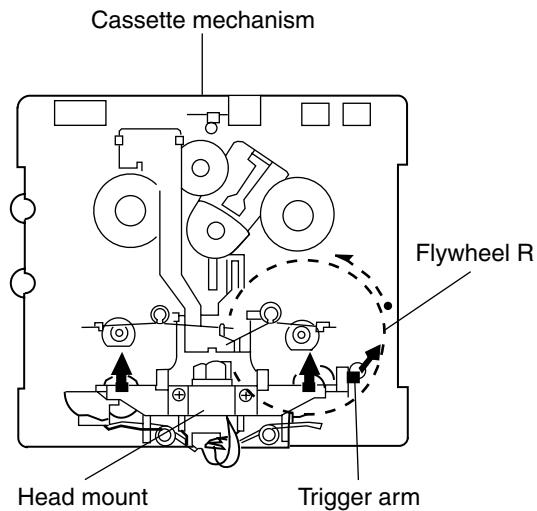

Fig. 1
### ■ Removing the playback / recording & eraser head (See Fig. 1 to 3)
1. While shifting the trigger arms seen on the right side of the head mount in the arrow direction, turn the flywheel R in counterclockwise direction until the head mount has gone out with a click (See Fig. 1).